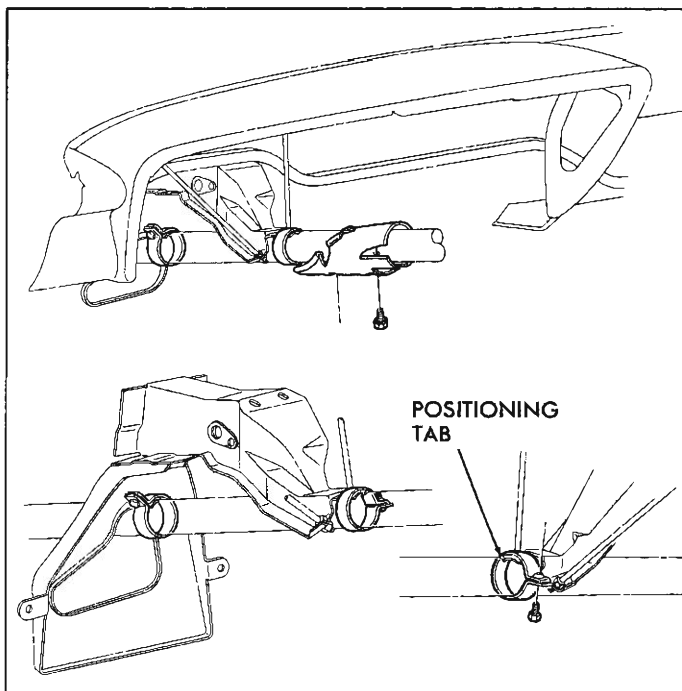

Fig. 14—Mast Jacket Clamps
- Remove upper mast jacket clamp attaching bolt from dash bracket (fig. 14).